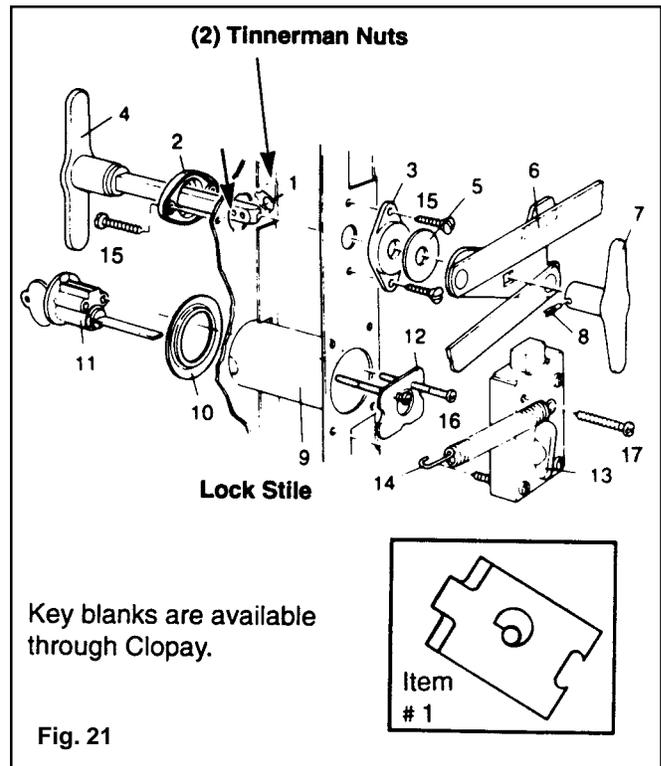

Fig. 21
1. Position the two green Tinnerman nuts (1) as shown in the front skin of the door. Attach the outside escutcheon plate (2) to the door by inserting two #10x1" countersunk slotted screws (15) through the plate into the two Tinnerman nuts. (FIG. 21)
2. Insert the spacer tube (9) from the outside face of the door into the predrilled hole by slightly squeezing the ring. Position the cylinder back plate (12) for attachment of the cylinder lock (11) and collar (10) with the screws (16) as shown. (Indent of back plate to face of door.) (FIG. 21)
3. Attach the inside escutcheon plate (3) to the inside of the door using two #10x1" screws (15) inserted directly into the lock stile. (FIG. 21)
4. Insert the outside T-handle (4) through the door, placing the lock bar assembly (6) through the square spindle of the T-handle from the inside. Next, trap the lock bar assembly by slipping the inside T-handle (7) over the spindle and inserting the roll pin (8) through a hole in the spindle. (FIG. 21)
7. Attach the night latch (13) to the lock stile using the #10x1 1/2" sheet metal screws (17). The lock bar spring (14) should be hooked to the left lock bar. (This is done with door in the unlocked position.) (FIG. 21)